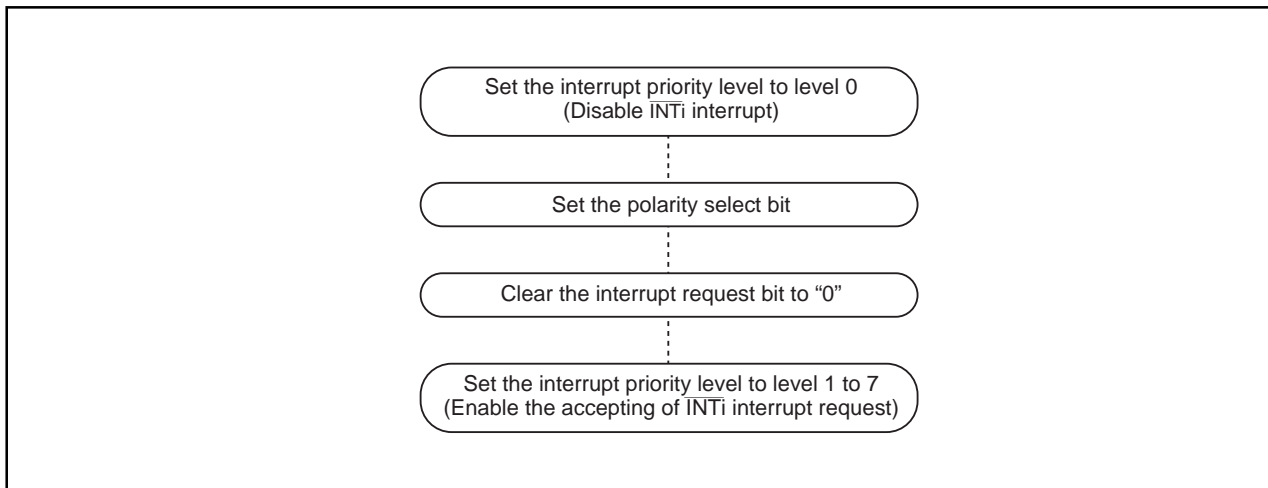

Figure 1.9.12. Switching condition of INT interrupt request
- When the polarity of the INT₀ to INT₅ pins is changed, the interrupt request bit is sometimes set to "1". After changing the polarity, set the interrupt request bit to "0". Figure 1.9.12 shows the procedure for changing the $\overline{\text{INT}}$ interrupt generate factor.
(5) Rewrite the interrupt control register